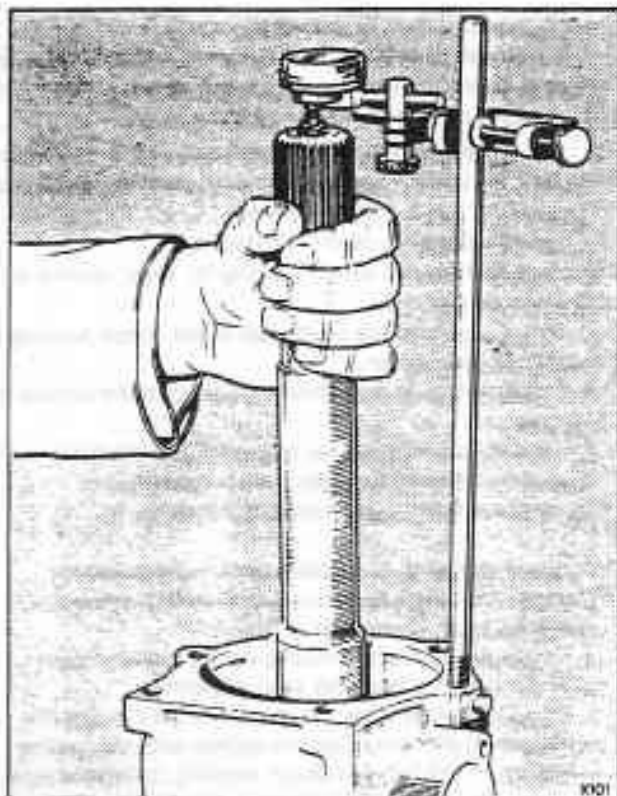

Fig. T18-4 Checking the rear unit end-float
3. Mount a dial test indicator onto the bolt so that the indicator stem registers with the end of the output shaft (see fig. T18-4).